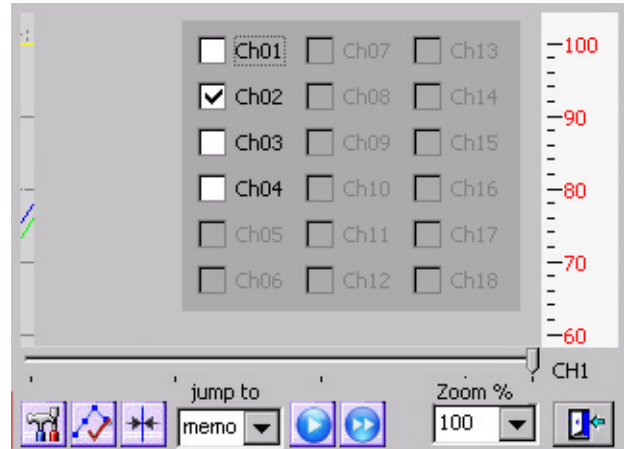

Figure 4-13.3 Trace Setup
**Go** – Proceed to the (next) instance of the ‘jump to’ drop down dialog (memo in Figure 4-13.3). Jump options are memo, time, Ymax and Y min. See below.
**Go from Start** – Start at the beginning of data (most recent) and proceed to the next instance of the ‘jump to’ drop down dialog (memo in Figure 4-13.3)
**Trace Setup** – Tapping this icon will bring up the Trace Setup screen (see Figure 4-13.3), which enables the user to shut off traces on the display. Those traces not on the original trend will be grayed out. Check the box next to the trace you want displayed, uncheck it to remove the trace from the browse trend. Traces can be turned on or off at any time.